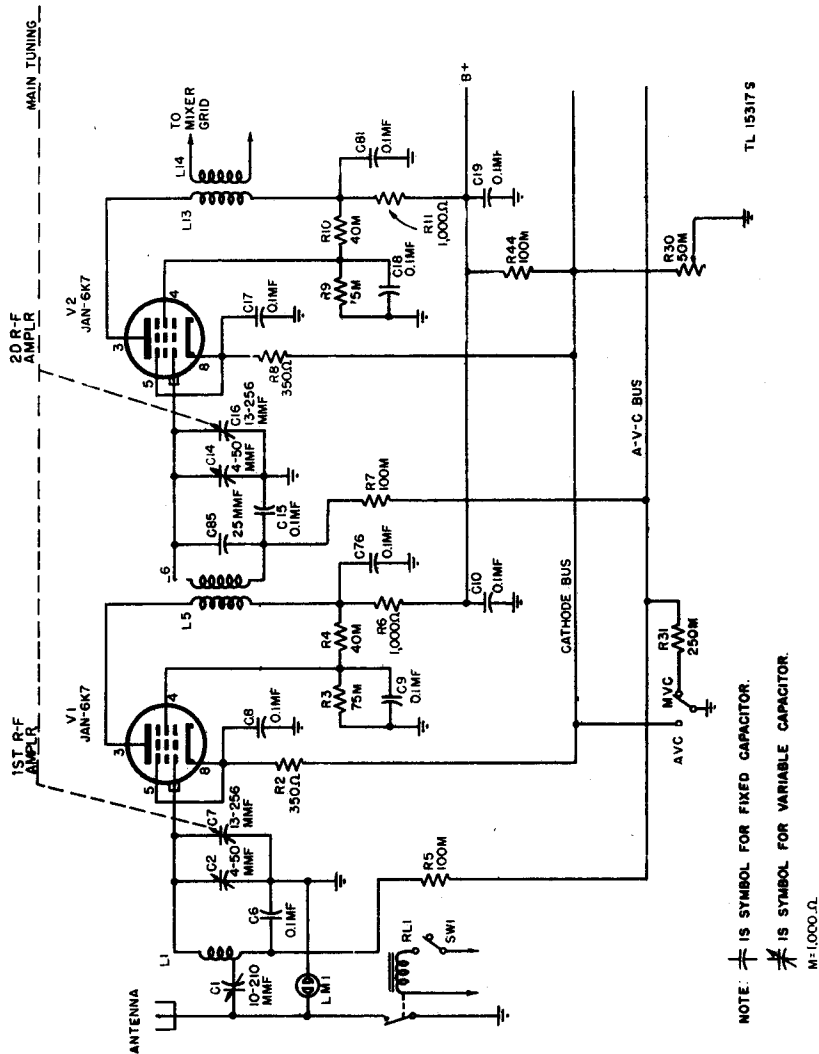

Figure 22. R-f amplifier stages, m-f models.
c. RADIO RECEIVERS BC-314-(*) AND BC-344-(*). (1) A simplified schematic diagram of the r-f amplifier stages in the m-f receivers on Band D is given in figure 22. The first tuned circuit consists of coil L1 and capacitors C2 and C7. Capacitor C7 is the main tuning capacitor and is mechanically ganged with capacitors C16, C46, and C67 in the second r-f amplifier, mixer, and r-f oscillator stages respectively. Trimmer capacitor C2 is provided to permit individual alignment of the tuned circuit. Capacitor C6 provides an r-f ground for coil L1 and prevents the d-c bias voltage applied to the grid from being shorted to ground. Capacitor C6 also functions in conjunction with resistor R5 to form a decoupling network in the a-v-c lead.
(2) For m-v-c operation, a combination of fixed and variable cathode bias is used for the two r-f tubes. The fixed bias for tube V1 is developed across resistor R2 and capacitor C8, while the variable bias is obtained by returning one end of resistor R2 to the junction point of resistors R44 and R30. By varying resistor R30, the grid bias can be varied from approximately -4 to -80 volts with respect to the cathode. The screen voltage for tube V1 is obtained from the voltage divider consisting of resistors R3 and R4 connected across the B+ supply. Capacitor C9 is the screen bypass capacitor. The plate load for tube V1 consists of coil L5. Plate voltage is obtained from the B+ supply through decoupling resistor R6, bypassed to ground by capacitor C10.
(3) The output of the first r-f amplifier stage is coupled from coil L5 to coil L6 in the grid circuit of the second r-f amplifier stage. Coil L6 is tuned by fixed capacitor C85 and variable capacitors C14 and C16. The circuit constants, with the exception of the reference symbols, and the operation of the second r-f amplifier stage is identical with that of the first stage. (See fig. 22.)